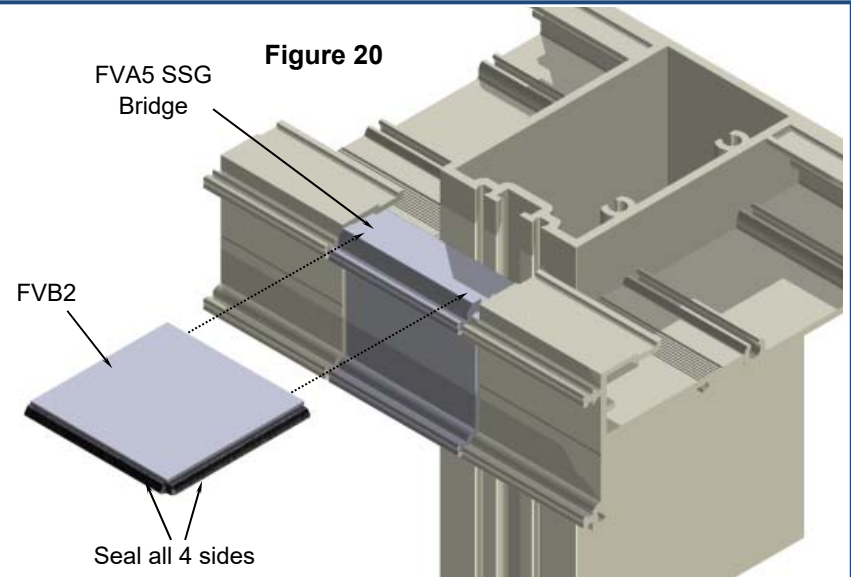

Figure 20
- **Type “A” Installation - SSG:** After framing members are installed into the opening install the FVA5 bridge at the vertical mullion head per instructions. Then apply silicone type sealant to one side of a FVB2 mullion end cap and slide it over the vertical mullion end. See figure 20.